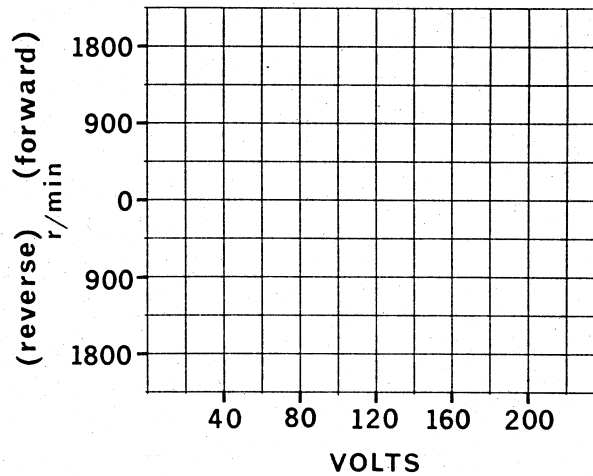

Figure 3-2.
8. Plot the rotor speed vs rotor voltage on the graph of Figure 3-2. Should it be a straight line?